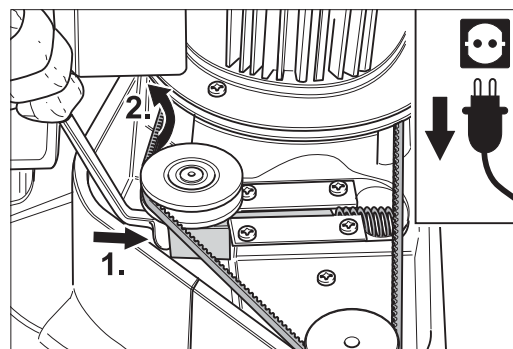

Fig. 47 Release the tension of the V-belt by carefully applying the cranked closed-mouth wrench and moving the belt tensioner as shown.
- 11 Release the tension of the V-belt by carefully moving the V-belt tensioner using cranked closed-mouth wrench. The V-belt can now be disengaged from the pulleys and the belt tensioner (Fig. 47).